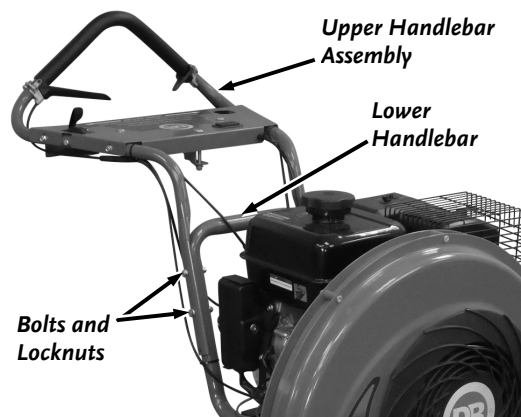

Figure 5
1. Pull the Upper Handlebar Assembly from its shipped location and position the Upper Handlebar Assembly onto the Lower Handlebar (**Figure 5**).